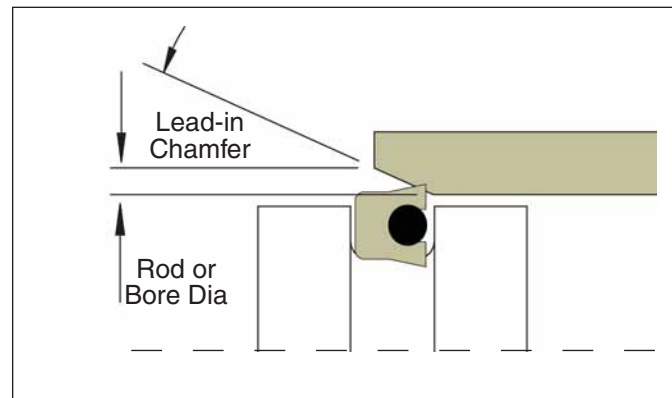

Figure 2-16. Seal installation lead-in chamfer
**4. Lead-in Chamfer.** A generous lead-in chamfer will act as a guide to aid in seal installation. With the proper lead-in chamfer, the seals can be installed without lip damage. Refer to Figure 2-16 below and Table 2-6 on page 2-8 for proper lead-in chamfer dimensions.